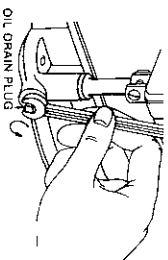

FIGURE 29
Step 1. With the machine on level ground place a suitable metal container under the oil drain plug, then remove the drain plug. See fig. 29.